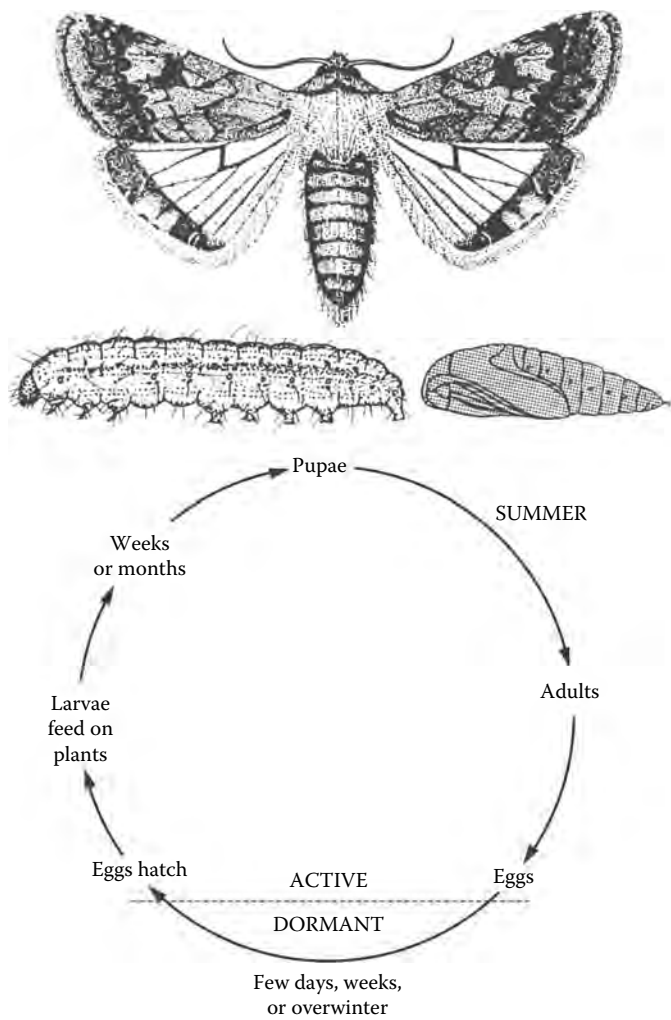

FIGURE 25.8 Caterpillars with life cycle. (Insect drawings courtesy of J.R. Baker, North Carolina Agricultural Extension Service, Raleigh, North Carolina.)
- 6. *Caterpillars and cutworms*: These are larvae of butterflies and moths, respectively (Figure 25.8). Their presence on crops is indicated by notches in leaves and cut stems and leaf petioles. Cutworms climb up the plants and feed at night, going back to the substrate to hide during the day. Caterpillars feed day